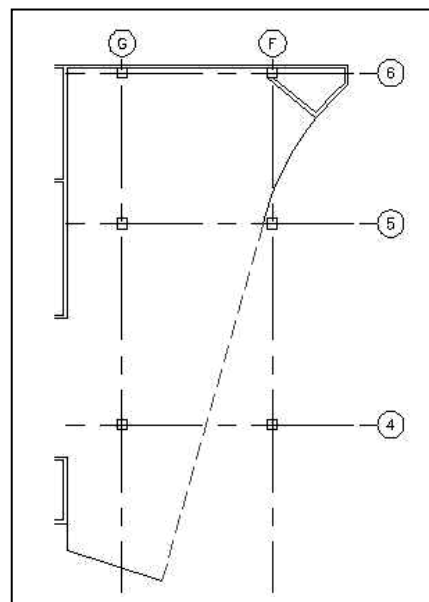

Figure 4-2.4b Drawing last main line
- f. Trim the curved line at grid 5 and then draw the longer angled line by “connecting-the-dots”; see Figure 4-2.4b.